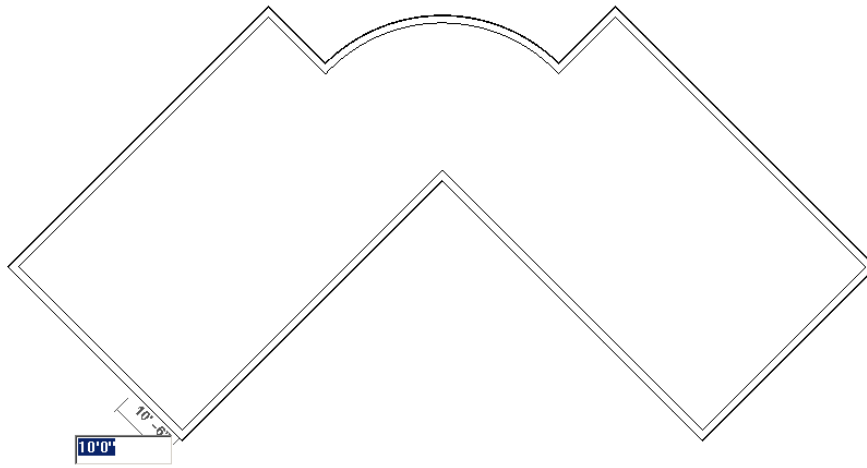

Figure 2-61 Specifying the start point of the first interior wall
- g. Sketch the interior walls based on the given parameters, refer to Figures 2-61 through 2-67.
3. Move the cursor close to the lower left corner of the building profile. When the temporary dimension appears, enter the value **10'0"**, as shown in Figure 2-61, to start the interior wall profile from the specified point.